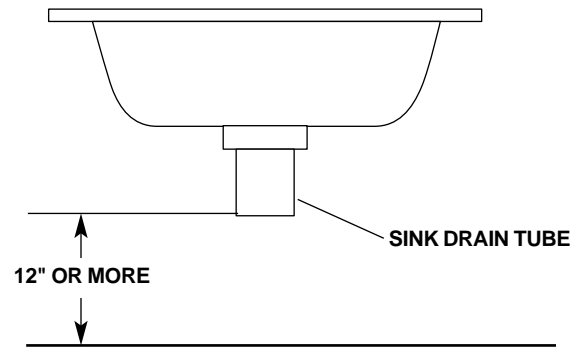

FIGURE 8
- The vacuum wash station drain requires at least 12 inches of vertical space below the end of the sink drain tube (see Figure 8).